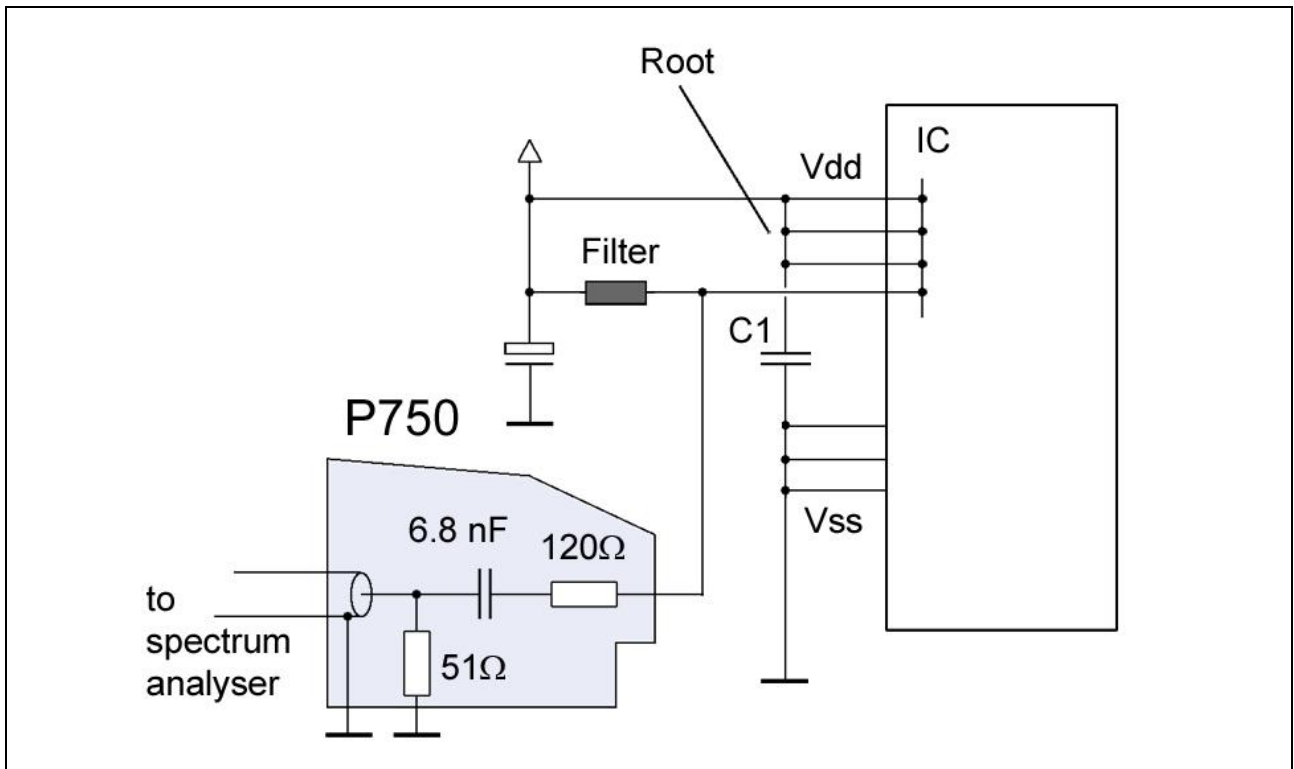

Figure 7 P750, voltage measurement on a Vdd pin
6. Voltage measurement (**P750**) on a Vdd or Vss pin, **Figure 7**
An IC internal connection to other Vdd supply pins is assumed for a voltage measurement on a Vdd pin (**Figure 7**). This measurement enables the determination of voltage dips on the IC's internal Vdd network.